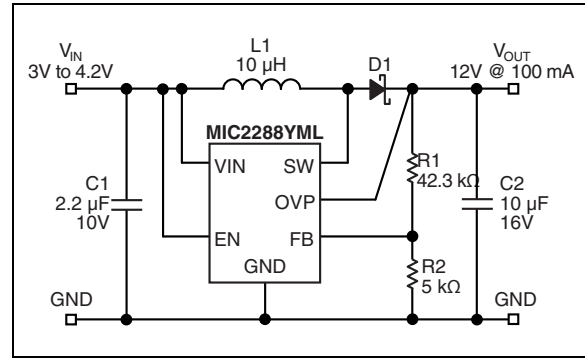

FIGURE 6-3: 3.0V to 4.2V V_{IN} to 12 V_{OUT} @ 100 mA.
- Updated part number L1 (Figure 6-3).